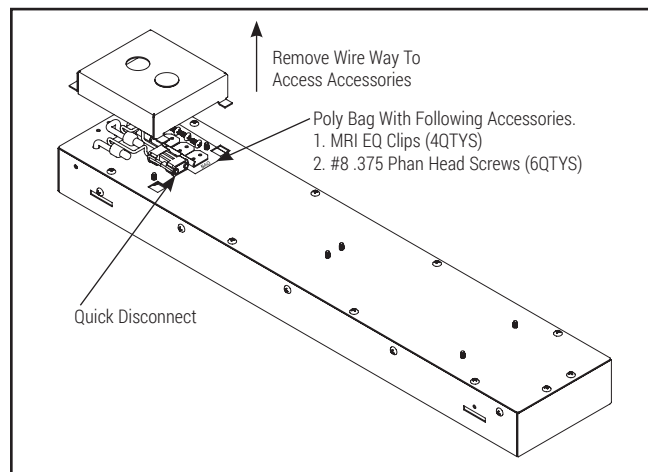

Figure 3.
6. Remove Wire Way To Access Accessories. (Figure 3.)
7. Install MRI EQ clips all 4 sides of the housing with provided slots and secure to housing with #8 screws provided in part bag. (Figure 3.)